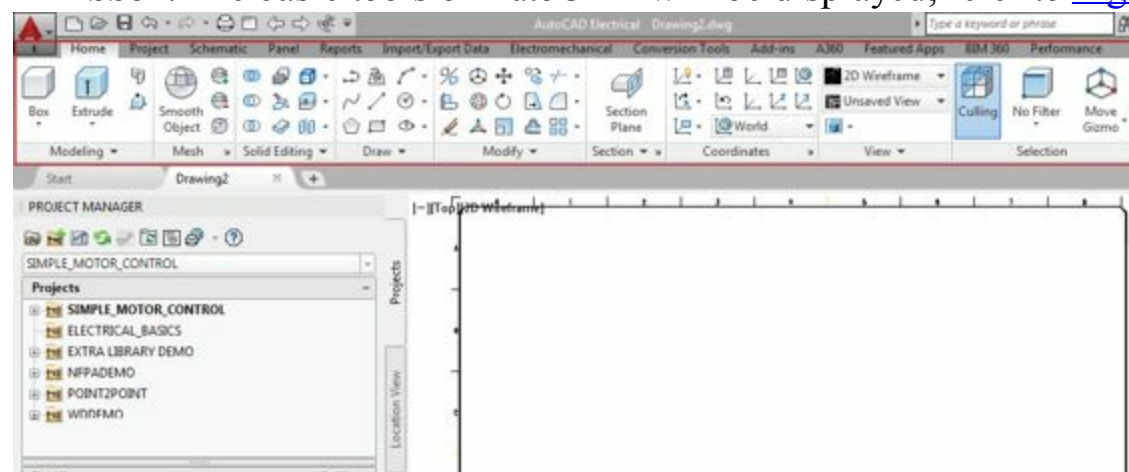

Figure-37. Home tab of Ribbon
- After starting a new document with **ACAD Electrical IEC** template, click on the **Home** tab of the **Ribbon**. The basic tools of AutoCAD will be displayed; refer to Figure-37.